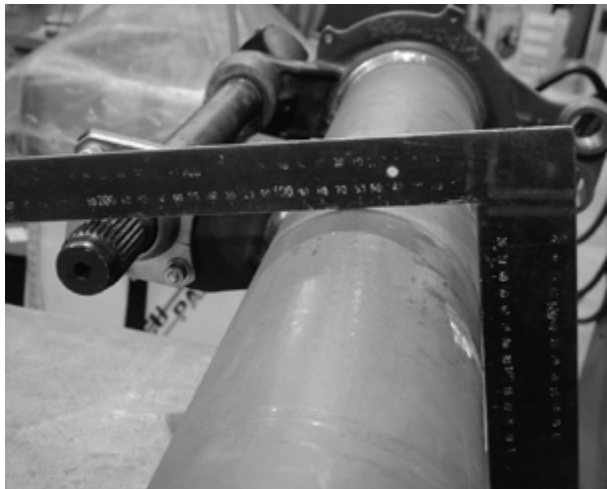

Figure 7: Framing square helps position brake chamber bracket
3. **Place** a framing square on the axle contacting the camshaft splines as shown in Figure 7 and Figure 8.